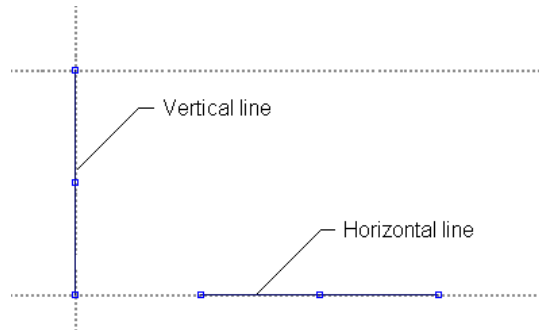

Figure 2-6 Vertical and horizontal keypoint lines created
1. If you specify the endpoint of the line by using the middle mouse button a horizontal keypoint line will be created, as shown in Figure 2-6.
2. If you specify the endpoint of the line by using the right mouse button a vertical keypoint line will be created, refer to Figure 2-6.